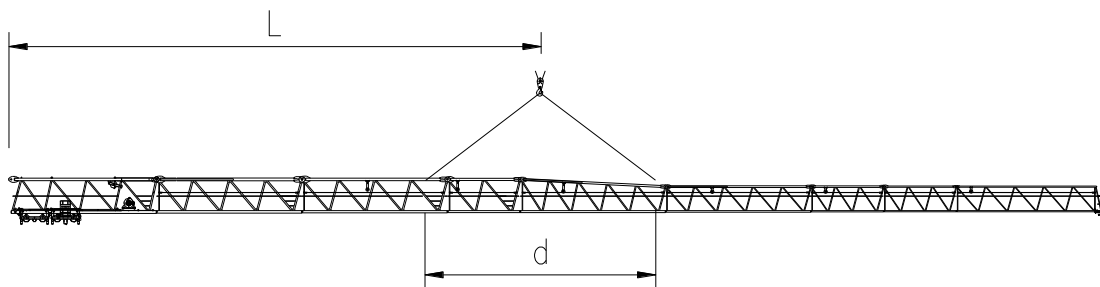

Fig. 4-33 Reference center of gravity of jib
- 2) According to the center of gravity of the jib assembly of each jib length to hang the rope, see Fig. 4-33 and Table 4-3. Try to test the sling point whether balanced, otherwise the position of the hanging rope can be moved appropriately. The distance between the two sling points is $8\text{m} \leq d \leq 20\text{m}$.